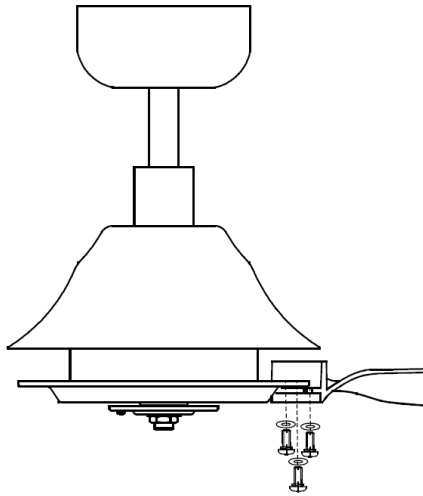

Fig. 8
- Insert the blade screws through the blade kit and blade, then secure the blade to the motor by tightening the 3 screws. Fig.8